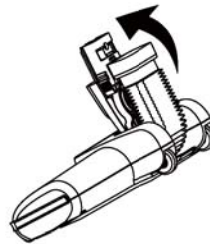

Fig.29
- Carefully remove any debris or blockage from the inside of the hose. Reattach the motorised brush head onto the main body (Fig.29).